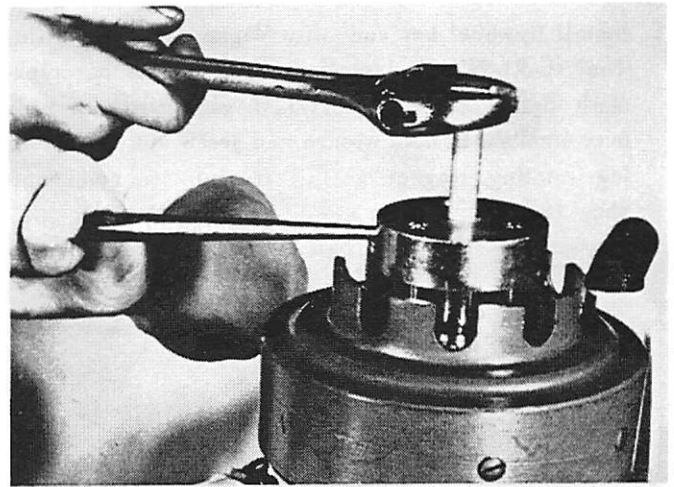

Figure 37. Removing Flywheel
2. To remove flywheel, attach Flywheel Puller Tool (C-91-24695A2) to flywheel evenly and secure with 3 screws into top of flywheel. Center the Puller Plug (C-91-24161) over crankshaft thread end to protect threads and turn down on flywheel puller with wrench until pressure is exerted on flywheel. (Figure 37) Hold center part of tool rigid with screwdriver inserted in hole on side of tool body while turning down on center screw. Tap top of center screw with hammer to break flywheel loose, if exceptionally tight.